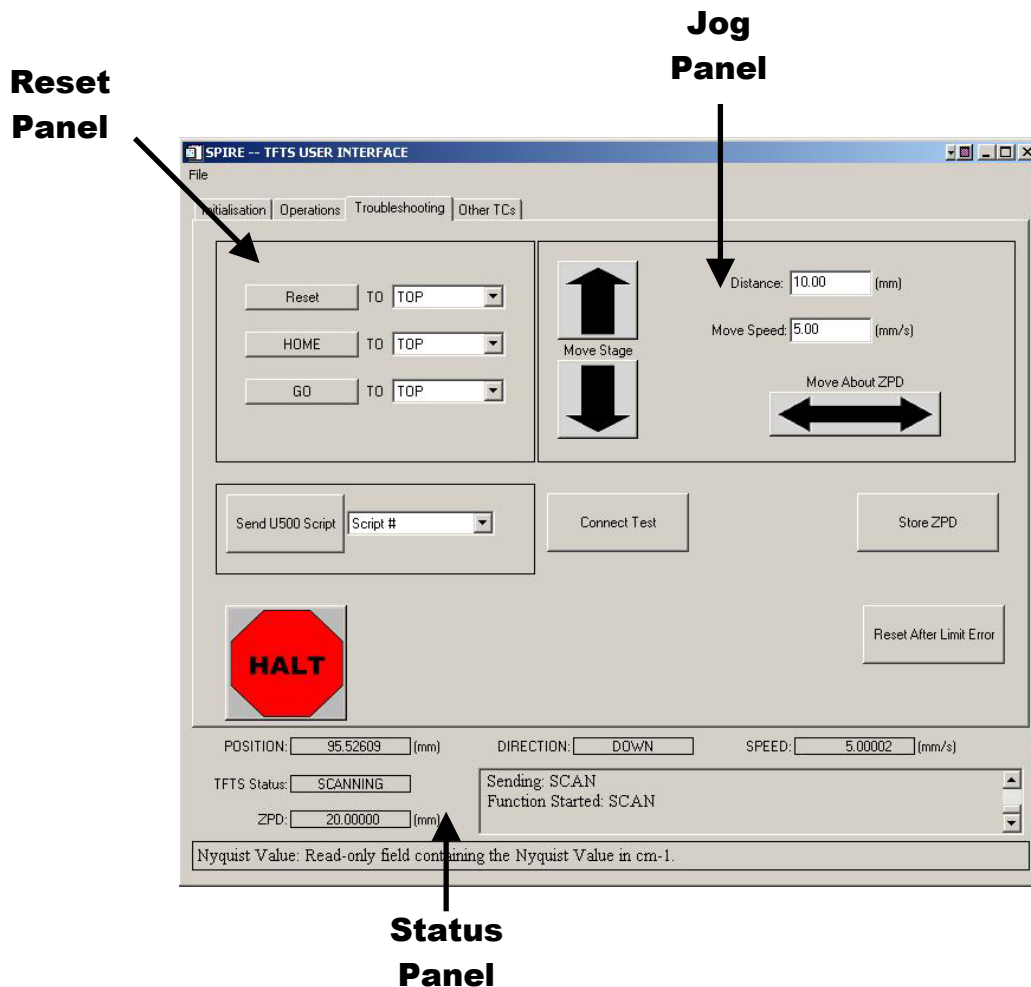

Figure 4 Troubleshooting and Verification Tab
Once the appropriate IP and Port values are displayed, select the **Connect** button to try to establish a connection with the EGSE Router. If this attempt is successful, the focus of the User Interface will switch to the Troubleshooting and Verification Tab (§Figure 4) and the elements of the Initialisation Tab will be de-sensitised. If the attempt to establish a connection is unsuccessful, the User Interface will generate an exception message (§5.1.6).
As mentioned in §2, once the connection the EGSE Router has been established, the focus of the User Interface will automatically switch to the Troubleshooting and Verification Tab (see Figure 4). The elements on this tab allow the user to find and/or verify the position of zero path difference of the TFTS stage. The elements on this tab are also useful for sending commands to the TFTS System that enable it to recover from errors.
2. **Reset the TFTS.** The next step in the verification process is to reset the TFTS Software and Hardware by choosing the **Reset** button (see Figure 4). *This is recommended not only at start-up but should also be performed whenever the TFTS System reconnects with the EGSE Router or when the TFTS System is in and ERROR or ABORT state (§6.2).*
The TFTS may be reset by choosing one of the three options in the Reset Panel of the Troubleshooting and Verification Tab (see Figure 4). The three TFTS reset options and their effect on the TFTS System is presented in Table 1.
Use the associated drop-down menu in the Reset panel to specify the position to where the stage is to be moved (see Figure 4).
Use the unidirectional Jog buttons (see Figure 4, Jog panel) to move the stage to the ZPD position. The stage position where ZPD is expected to be is displayed in the status panel of the TFTS-UI.
To command the stage to move continuously back and forth (up and down), select the bi-directional arrow button in the Jog panel of the Troubleshooting tab (see Figure 4). For this mode, the distance data field in the Jog panel represents the amplitude of the movement about the starting stage position. Observe the detector signal as the stage moves about the ZPD position.
Diagnostic information from the TFTS System is constantly displayed in the lower panel of the TFTS User Interface (see Figure 4). This diagnostic information comes from the TFTS housekeeping data and is updated once per second. These parameters are: